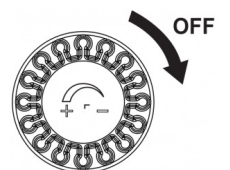
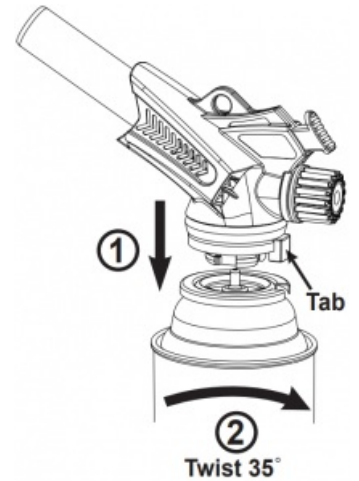

Fig.2
Fig.3
1. Make sure the control knob (1) is fully closed (by turning it clockwise as far as it will go). (Fig.2)
3. Align the notch in the collar of the gas cartridge with the locator tab (2) on the valve adaptor (3) of the appliance.
4. Push down the valve adaptor gently in the concave part of the gas cartridge and turn the gas cartridge clockwise until "hand tightened". (Fig.3)
4. After use, ensure the control knob is turned fully clockwise. (Fig.2)